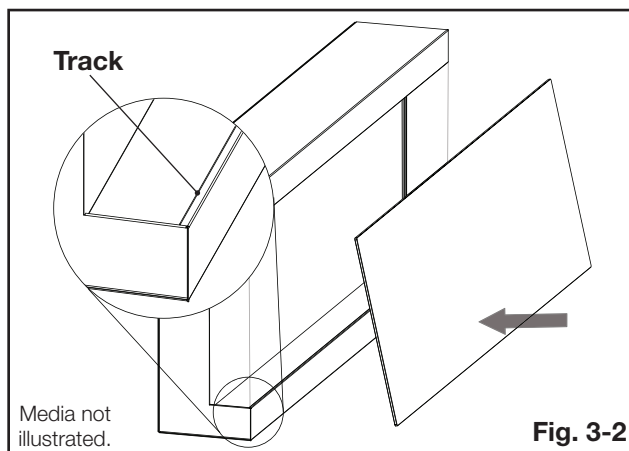

Fig. 3-2
2. Place the front glass into the track located inside the firebox (**Fig. 3-2**).